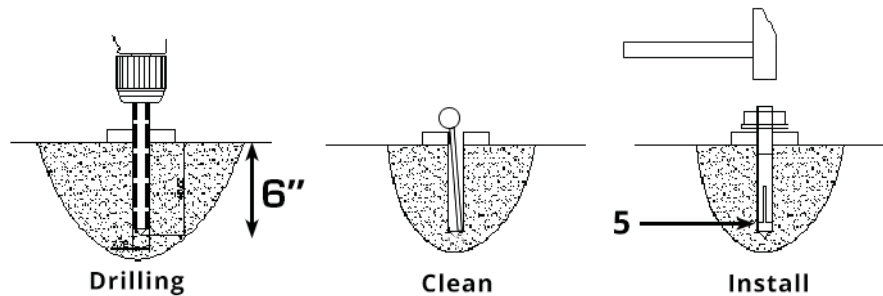

Fig. 14
2. Use a the rotary hammer drill with a $\frac{3}{4}$ inch masonry bit and drill all the anchor holes and install the anchor bolts (See Fig. 14).